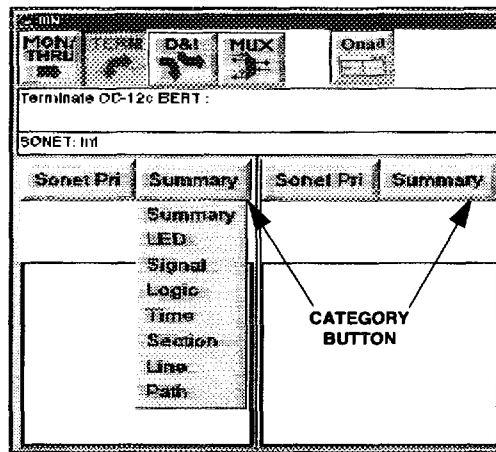

Figure 2-4. Pull-down List In Results CATEGORY
3. **Results CATEGORY Display** — The second button in this dual-feature display offers a pull-down list allowing you to choose test results in numerous *categories*. Categories change according to the application selected. Figure 2-4 shows an example of categories listed for SONET applications.